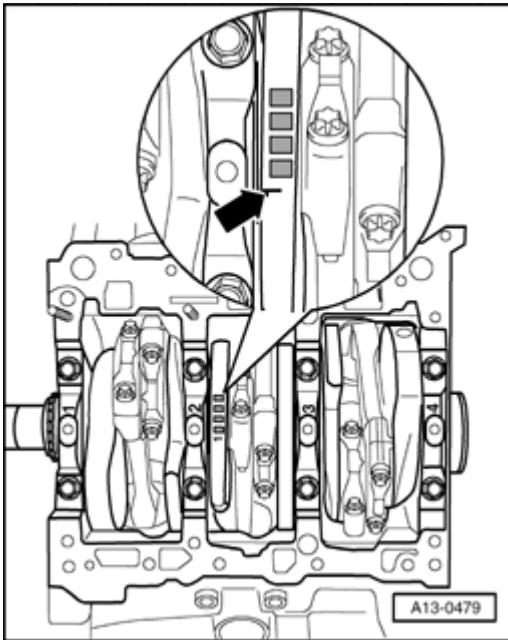

Fig. 185: Application Of Crankshaft Bearing Shells For Bearing Caps
- Insert new bearing shells for cylinder block with proper color marking. See **Fig. 185**